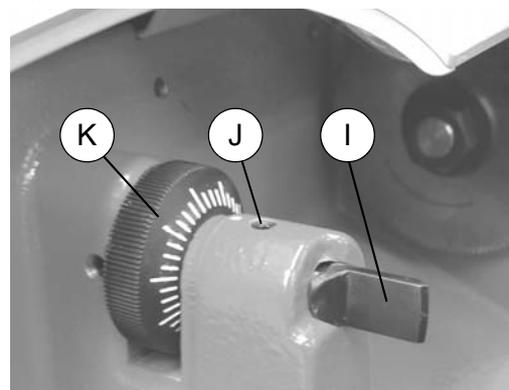

Fig. 24
To replace the tracer point (I) (fig. 24), proceed as follows: